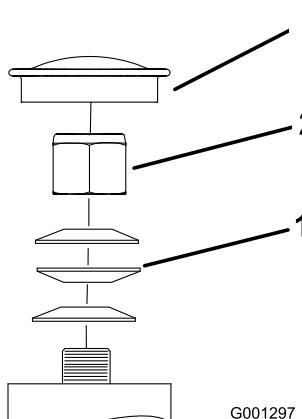

Figure 53
3. Remove the dust cap from caster and tighten lock nut (Figure 53).
4. Tighten the locknut until the spring washers are flat and then back off a 1/4 turn to properly set the pre-load on the bearings (Figure 53).
**Important:** Make sure spring washers are installed correctly as shown in Figure 53.
5. Install the dust cap (Figure 53).